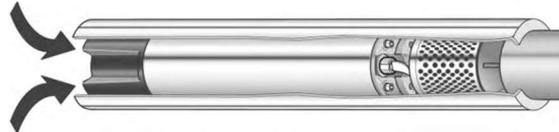

Figure 6-1: Cooling tube
- ⇒ Fit a cooling tube (see figure 6-1).